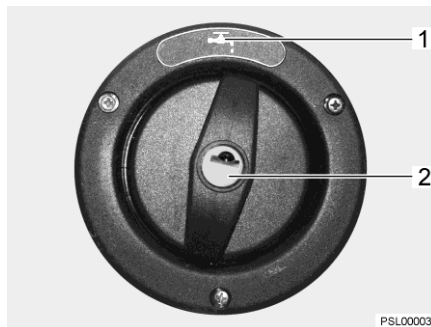

Fig. 58 Cap for the drinking water filler neck
The drinking water filler neck is indicated by the symbol "☰" (Fig. 58,1). The cap is opened and closed using the key for the external flap locks.
- Insert key into locking cylinder (Fig. 58,2) and turn a quarter turn in an anticlockwise direction.
- Open drinking water filler neck (Fig. 58).